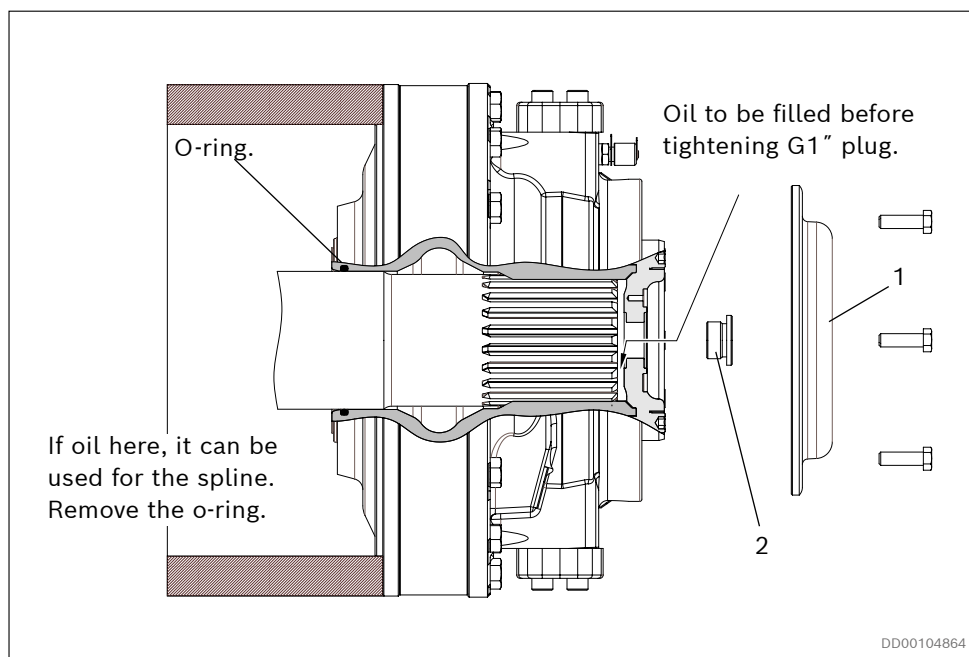

Fig. 42: Flange mounted motor, shaft horizontal
2. Fill up hydraulic oil to the G1" thread. See Fig. 42. Oil volume see Table 17
3. Mount the G1" plug (2). Torque 125 Nm (92 lb·ft).
4. Mount the end cover (1). Torque 80 Nm (59 lb·ft).